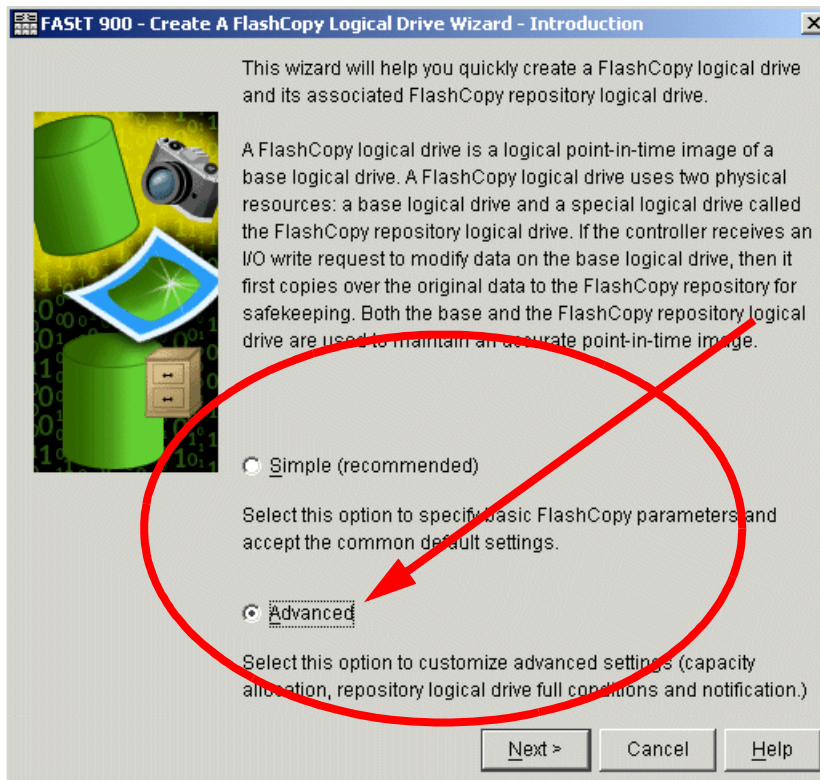

Figure 7-17 Create FlashCopy logical drive - Advanced
- c. If you chose the advanced path, select **Advanced** from the Create FC Logical Drive Wizard Introduction window (Figure 7-17) and click **Next**.